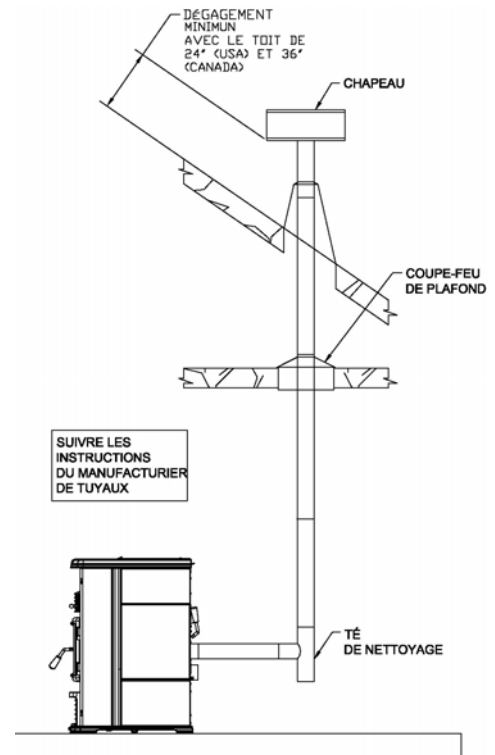

Figure 16
B. INSTALLATION VERTICALE AVEC UN SYSTÈME D'ÉVACUATION NEUF (VOIR FIGURE 16 – ÉVACUATION PAR LE TOIT)